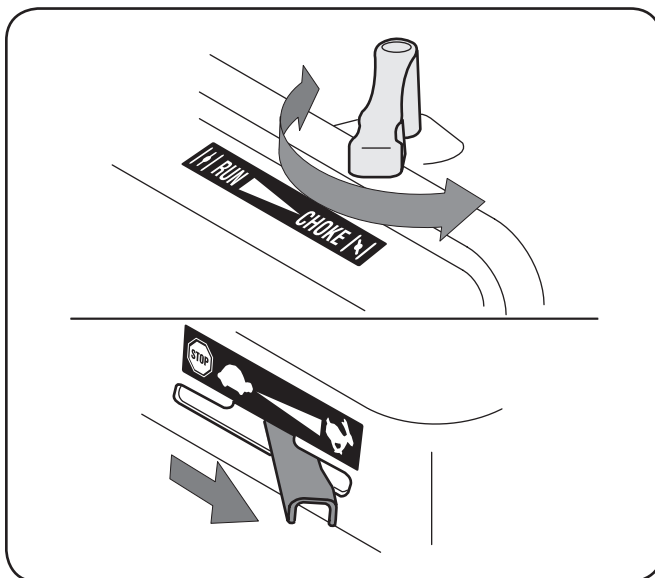

Figure 5-1
3. Move choke control lever to CHOKE position, if equipped. See Figure 5-1. If the unit has a primer, prime the motor as instructed in the Engine Operator's Manual.
4. Move throttle control lever to FAST position (if equipped). See Figure 5-1.